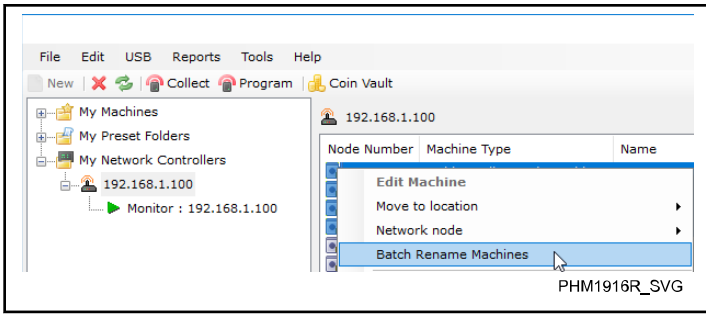

Figure 90
b. Right-click the highlighted list of machines. A pop-up menu appears. Refer to *Figure 90*.